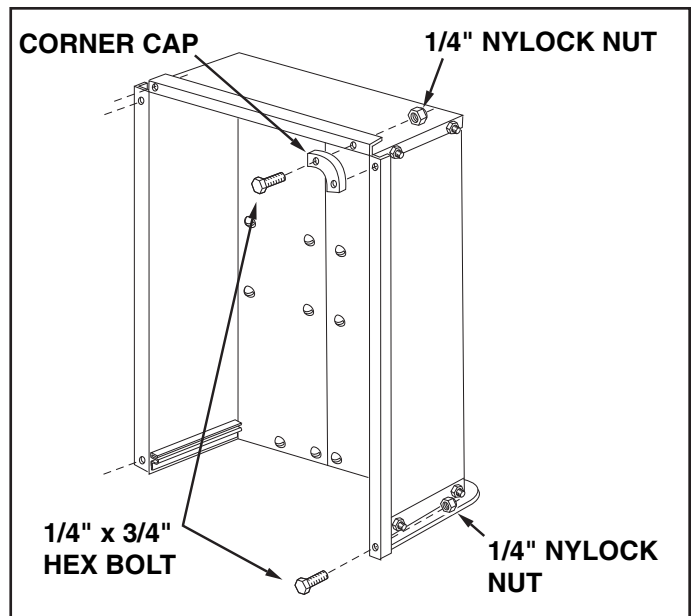

FIGURE 8
12. Assemble the two corner caps to the front corners of the cart using four $1/4" \times 3/4"$ hex bolts and $1/4"$ nylock nuts. Also assemble two $1/4" \times 3/4"$ hex bolts and $1/4"$ nylock nuts to the two rear corners of the cart. **TIGHTEN**. See figure 8.